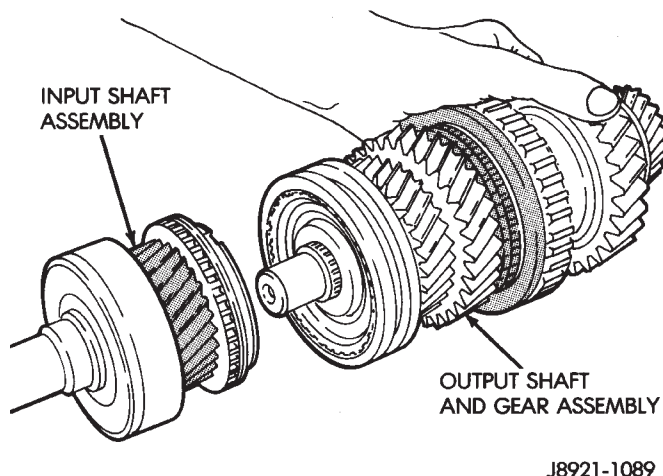

Fig. 97 Separate Input and Output Shafts
- (1) Verify that the 3-4 synchronizer is in the neutral position.
- (2) Separate input shaft from output shaft (Fig. 97). Note that the output shaft pilot bearing is an uncaged roller type bearing.
- (3) Remove the output shaft pilot bearing rollers from the input shaft and the output shaft.